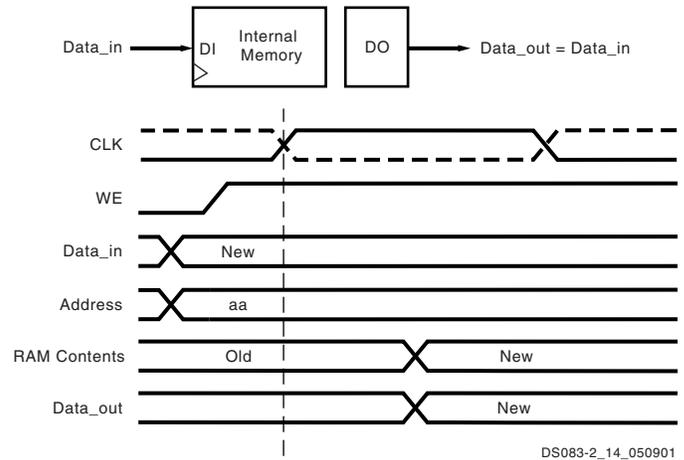

Figure 49: WRITE\_FIRST Mode
The WRITE\_FIRST option is a transparent mode. The same clock edge that writes the data input (DI) into the memory also transfers DI into the output registers DO, as shown in Figure 49.